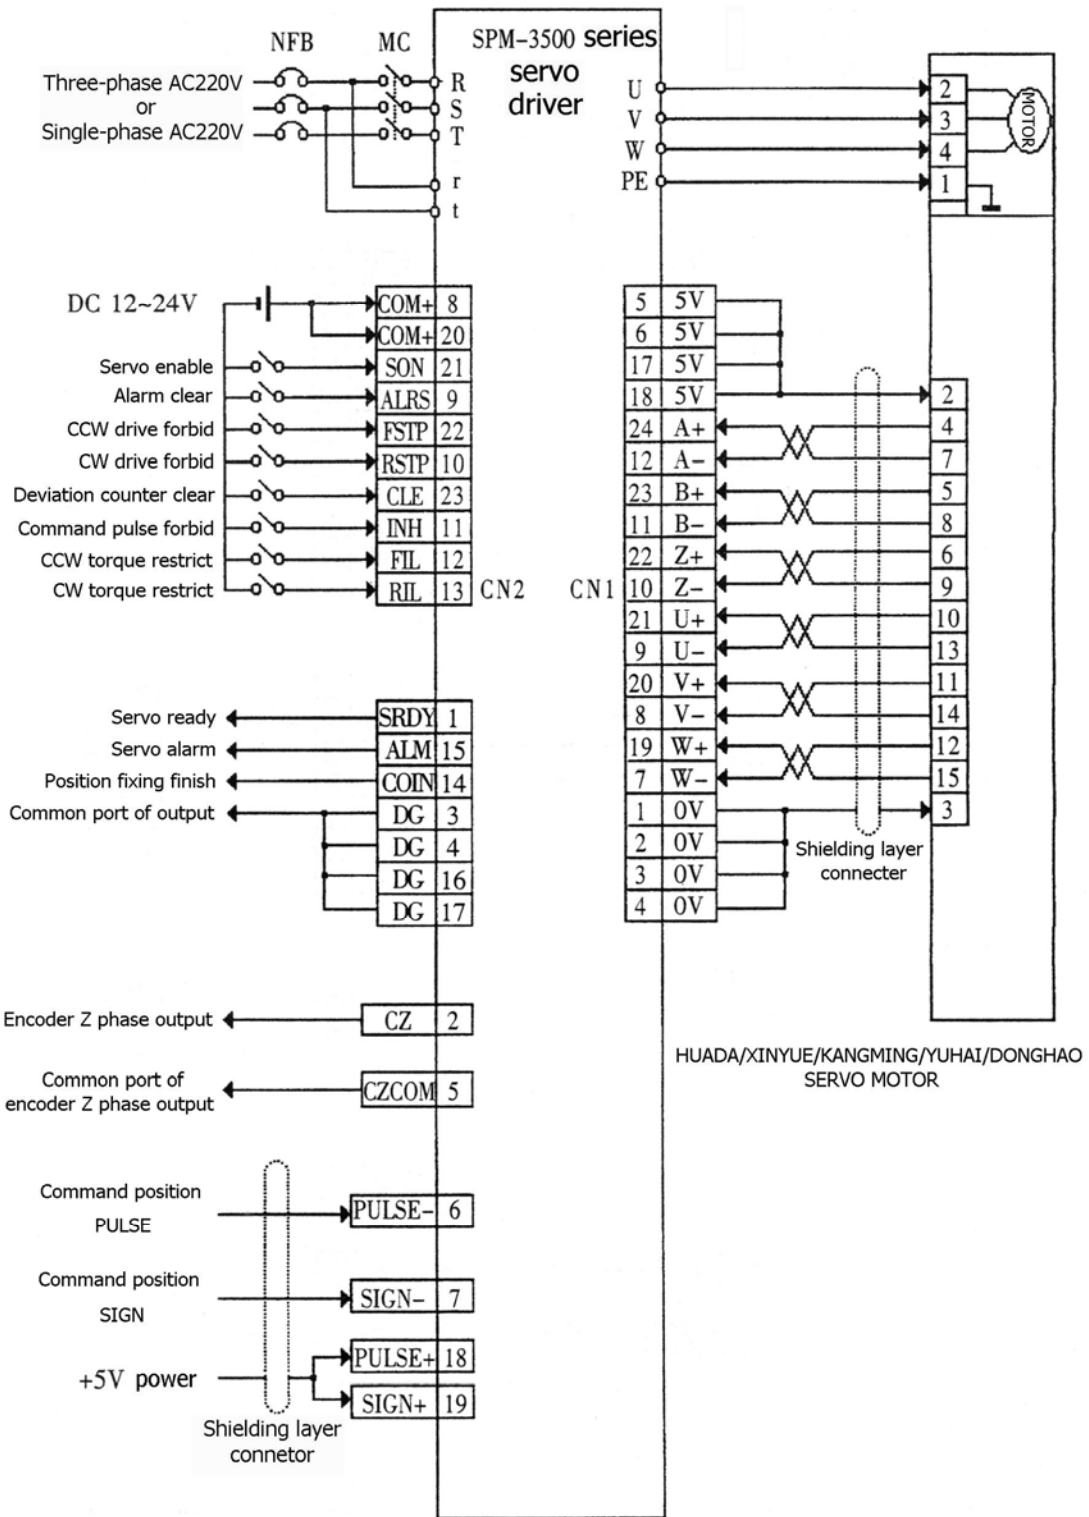

Fig 5.3 Standard wiring for position control mode between the driver and HUADA/XINYUE/KANGMING/YUHAI/DONGHAO servo motor
- 3) Fig 5.3 shows: The standard wiring for position control mode between the driver and HUADA/XINYUE/KANGMING/YUHAI/DONGHAO servo motor;